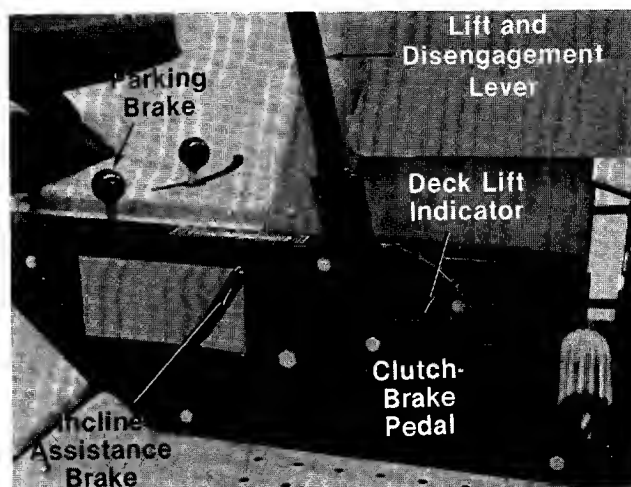

FIGURE 16.
The clutch-brake pedal is located on the right side of the lawn tractor. Depressing the clutch-brake pedal part way disengages the clutch. Pressing the pedal all the way down disengages the clutch and engages the disc brake. See figure 16.
To set the parking brake, depress the clutch-brake pedal and press the parking brake knob down. To release the parking brake, depress and release the clutch-brake pedal. See figure 16.
When stopping on a hill, hold the incline assistance brake lever back while you release the clutch-brake pedal until the lawn tractor begins to move, then release the lever. This lever permits smoother starts by helping hold the lawn tractor while the clutch is being engaged. See figure 16.
The deck lift indicator marks the position being used for the lift lever. Select the lift lever position desired, press the indicator lever outward, move it to the position immediately below the lift lever and release the indicator lever. See figure 16.
3. Depress the clutch-brake pedal and set the parking brake. See figure 16.
4. Place the lift and disengagement lever in the **DISENGAGED** position. See figure 16.